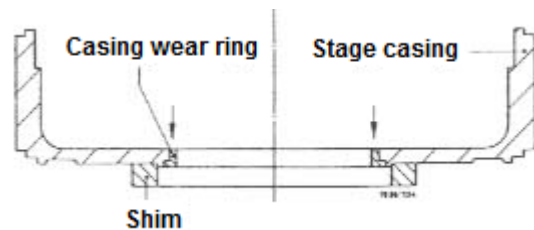

Figure 31
1. Push the casing wear rings out of their seats taking care not to damage the seats (see fig. 31).
3. Smooth down all impellers (230, 231) in the region of the fitted impeller wear rings (503) to a common diameter, basing this on the most heavily scored impeller wear ring. Individual deep grooves can be left untouched.
5. Align the stage casing (108) and suction casing (106) with fitted casing wear ring to the outer fit and machine the wear ring in one machine tool setting.